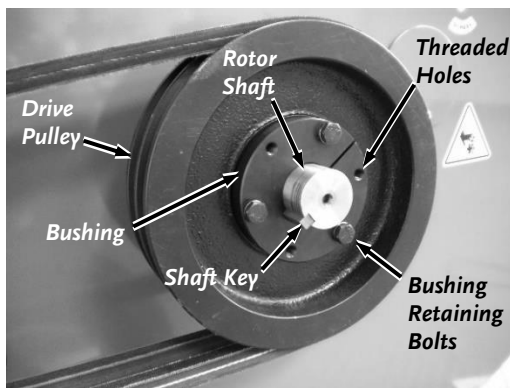

Figure 27
4. Remove the three Bushing Retaining Bolts with a 7/16" Wrench (**Figure 27**).